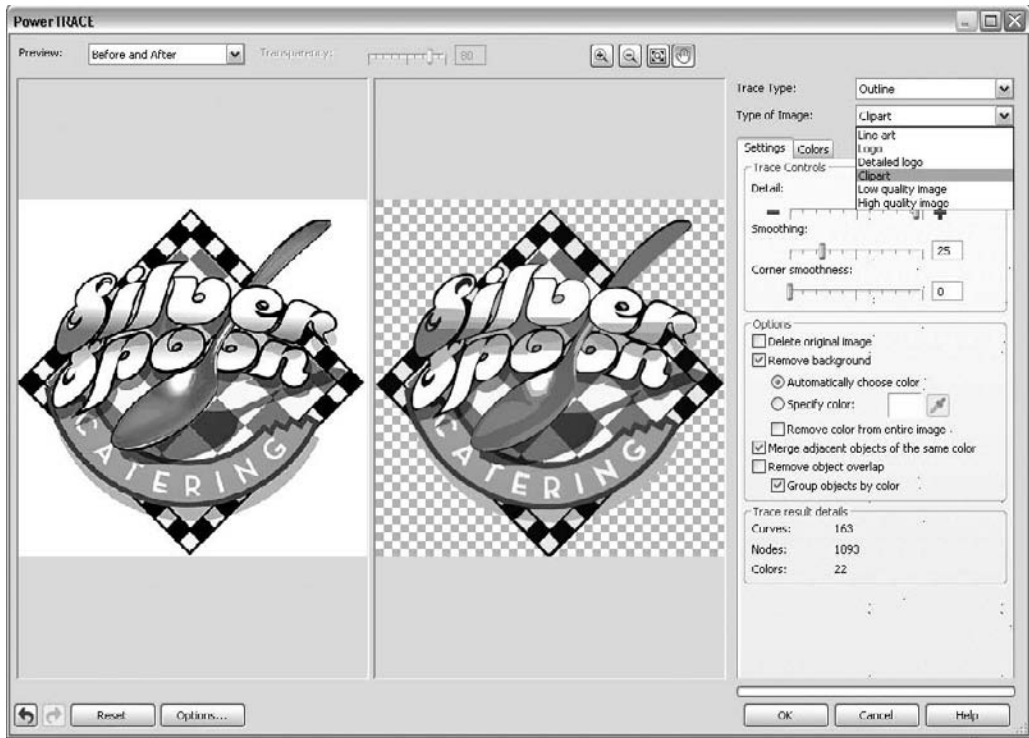

FIGURE 27-13 The higher the quality of image you import, the higher the tracing style should be.
4. Check Remove Background. Choose Group Objects By Color, and then take a look at the Trace Results details field, as shown in Figure 27-13. About 163 objects will be produced; this seems right if you tally up all the individual areas in the original bitmap. If this number ever seems too low, try increasing the Detail slider. Click OK now.